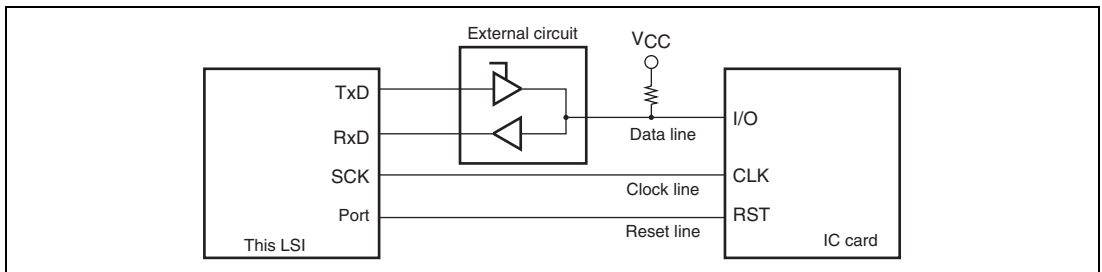

**Figure 13.21 Example of Pin Connections for Smart Card Interface**
Figure 13.21 shows an example of connection with the smart card. In communication with an IC card, as both transmission and reception are carried out on a single data transmission line, but the Tx/D pin is always fixed to output. Note that the following controls are needed to avoid signal collision: (1) control of data directions between TXD and I/O in the external circuit and (2) setting of the TXD pin to an input port except in transmission. Similarly, since the Rx/D pin is always fixed to input, connect a pull-up resistor to avoid the open state.